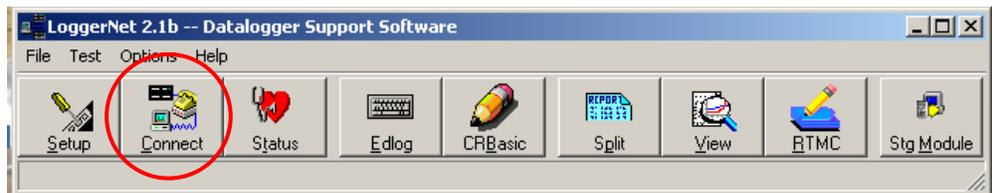

Figure 13
5. Click on the **Connect** button on the **LoggerNet** main menu bar (see Figure 13).